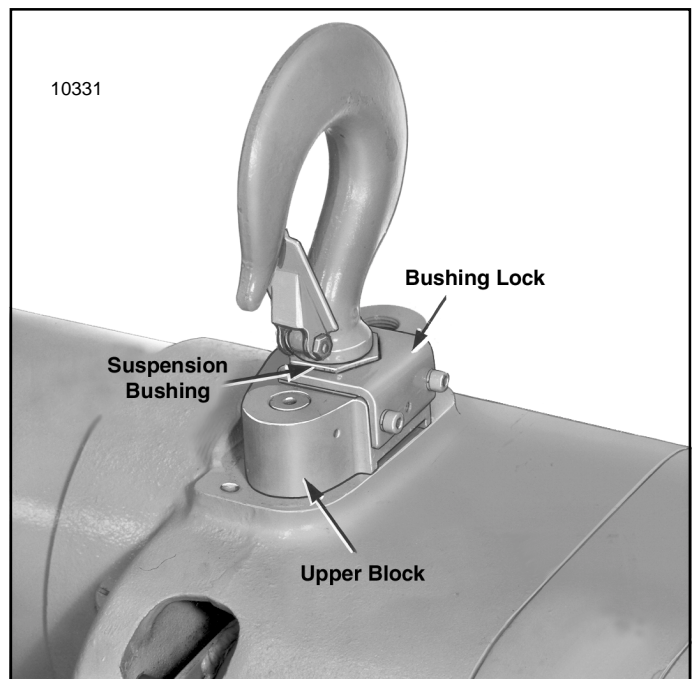

Figure 7-16. View of Upper Hook Assembled to Hoist Frame (Double Reeved Models)
(2) On double reeved models, unscrew two hex socket head screws holding suspension bushing lock assembly to upper block (Figure 7-16) and remove lock. Unscrew suspension bushing from block to remove hook. To disassemble block from frame remove drive pin from nut inside frame and unscrew nut from stud holding body to frame. Remove drive pin securing threaded end of chain anchor in block and unscrew anchor. Block can then be lifted off.